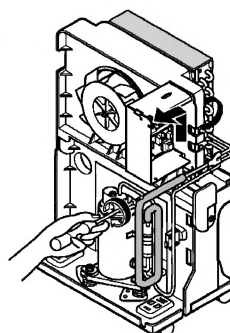

Figure 14
6. Remove 1 screw that fasten control box and unhook control box from hook on the shroud. (See Figure 14)